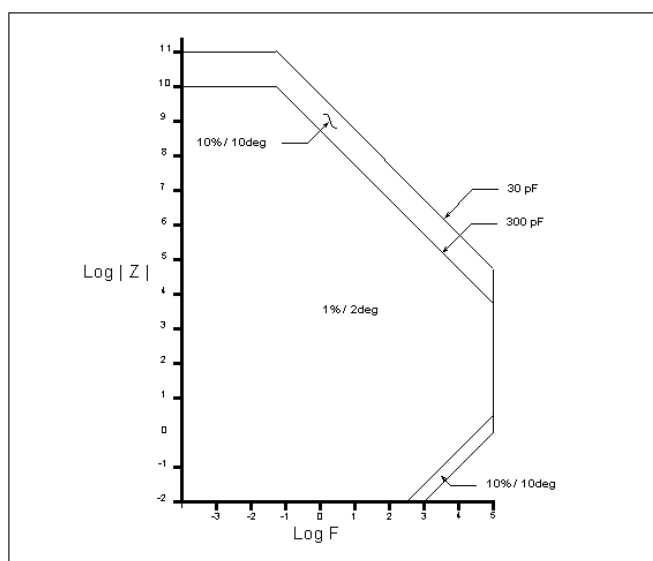

Figure 8. Accuracy Contour Map – EIS300/PC4 with 10 mV Excitation
The results of the open lead experiment and a few additional tests can be used to generate a very useful graph that we call the “Accuracy Contour Plot”. The accuracy of your impedance measurements can be predicted from this graph. An accuracy contour plot for the PC4 Potentiostat and the EIS300 EIS software can be seen in Figure 8.
An accuracy contour map is valid for only one excitation (AC) amplitude. The map in Figure 8 applies at 10 mV excitation amplitude. In most cases, increasing the amplitude shifts the limits on the map upwards. At 100 mV excitation, the boundaries of the 10%, 10 degree region are 20 pF and $5 \times 10^{11} \Omega$. The minimum capacitor limitation is almost independent of amplitude. The low frequency resistance is a stronger function of excitation amplitude.
The accuracy contour plot shown in Figure 8 only applies to the Gamry Instruments EIS300 running a PCI4/300 Potentiostat with 10 mV of potential excitation. If you have a different system, you need a different map. Gamry's Application note entitled "Accuracy Contour Plots" includes instructions for estimation (or measurement) of the accuracy contour map for your EIS system.